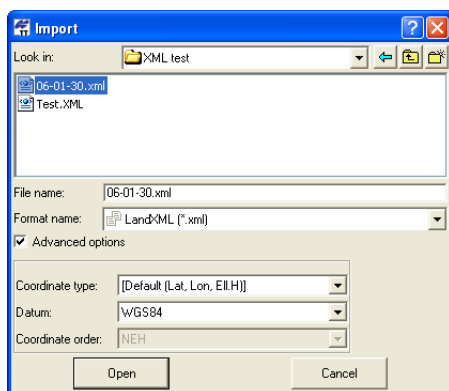

Figure 3-17. Import Land XML File
4. Select the desired *Advanced* options to assign an additional options for each Design formats (Figure 3-17):